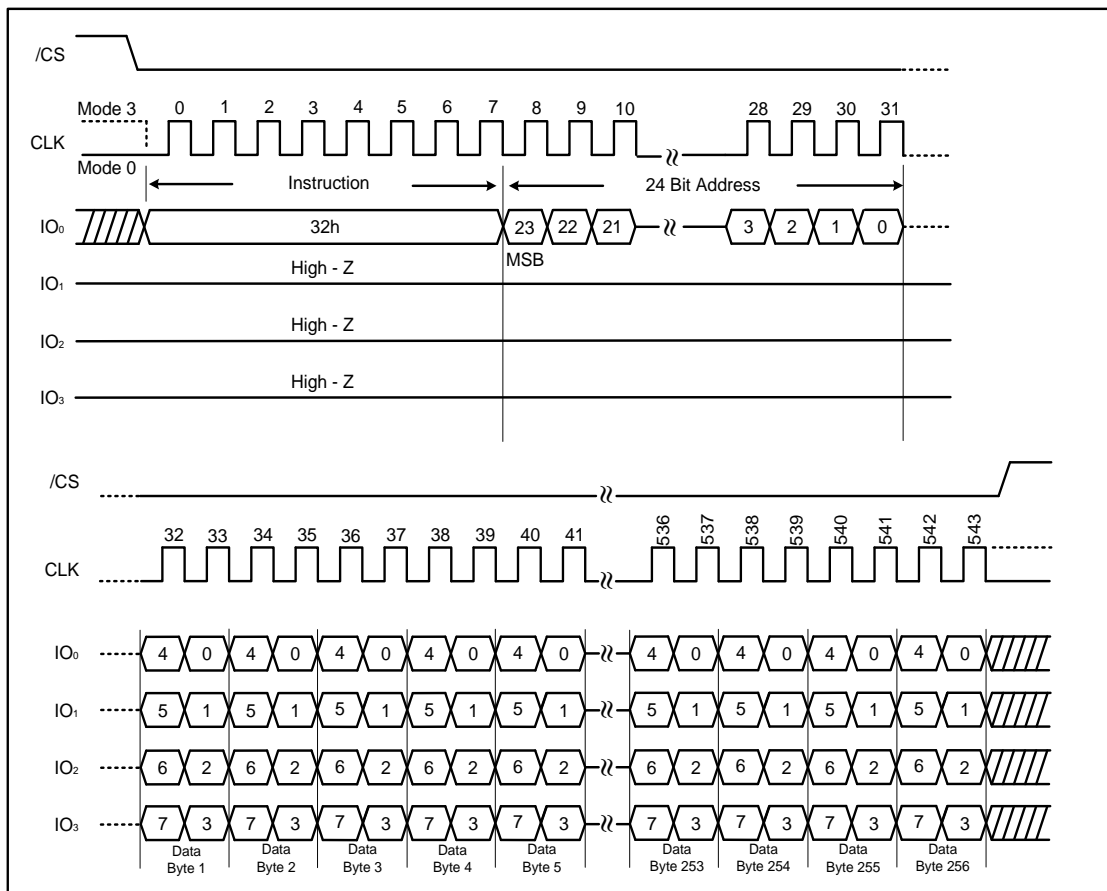

Figure 21. Quad Input Page Program Instruction (SPI Mode only)
To use Quad Input Page Program the Quad Enable (QE) bit in Status Register-2 must be set to 1. A Write Enable instruction must be executed before the device will accept the Quad Input Page Program instruction (Status Register-1, WEL=1). The instruction is initiated by driving the /CS pin low then shifting the instruction code “32h” followed by a 24-bit address (A23-A0) and at least one data byte, into the IO pins. The /CS pin must be held low for the entire length of the instruction while data is being sent to the device. All other functions of Quad Input Page Program are identical to standard Page Program. The Quad Input Page Program instruction sequence is shown in Figure 21.